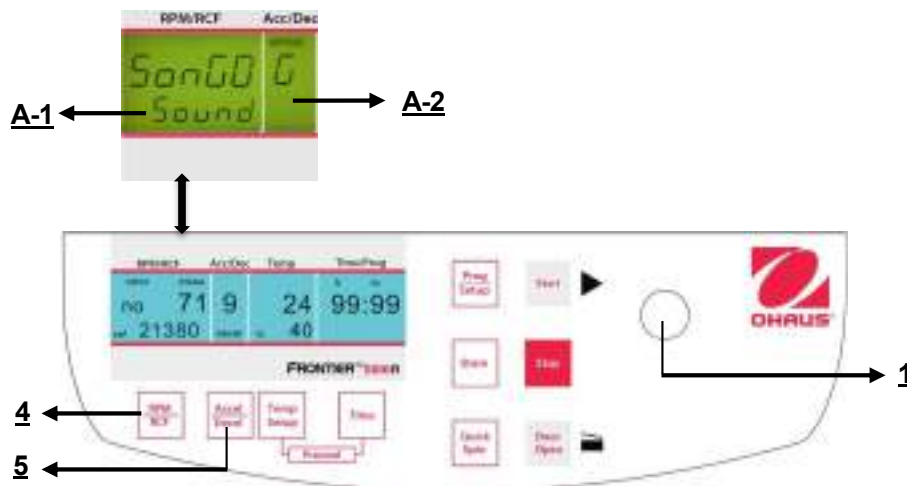

Figure. 34
Proceed as described under point 4.1.1 to enter this program mode and then press the key **"Accel/Decel"** (5). In the display **"Acc/Dec"** (A-2) the word **"Service"** flashes. Now select the letter **"G"** with the adjusting knob (1). As a result, in the display **"RPM | RCF"** (A-1), the word **"SonGo/Sound"** appears. After pressing the key **"RPM | RCF"** (4), you can select a song with the adjusting knob (1). (See figure 34).